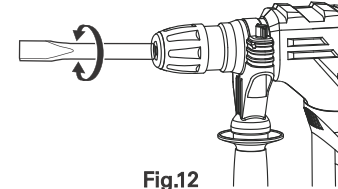

Fig.12
- Press the push button and set the change lever to toe (شستی) mark. (Fig. 11) The rotation is released, turn the tool and adjust the tool to desired position. (Fig. 12)